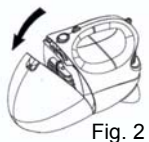

Fig. 2
1. To open the Dust Cup (container), push button and detach the Dust Cup (container). (Fig. 2)